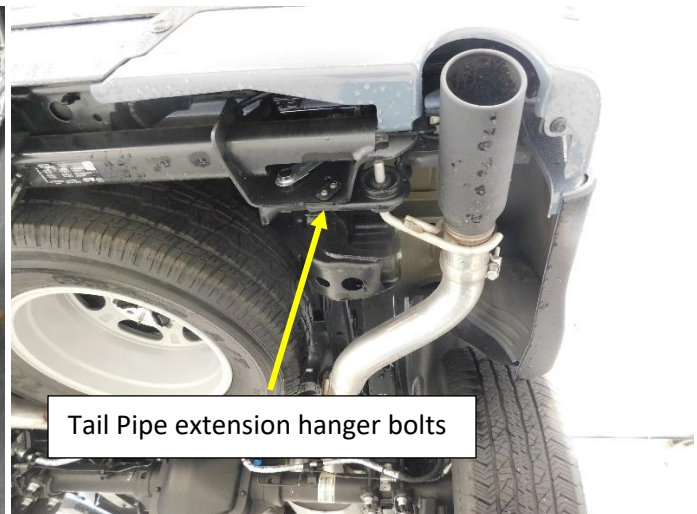

Figure.2
4. Remove the M10 nuts securing the Tail pipe extension hanger to the rear frame structure (trailer hitch assembly). **Fig.2**